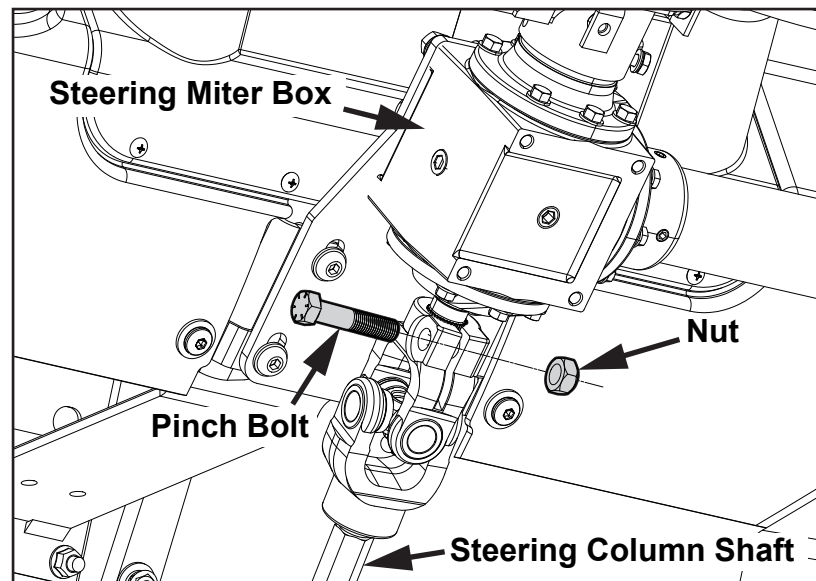

Figure 1, Steering Column Shaft
2. Unlock and open the cab doors and locate the steering column shaft (see Figures 1, 2 and 3).
3. Remove and discard the steering column pinch bolt and nut at the base of the steering column or miter box (see *Figures 1, 2 and 3*).